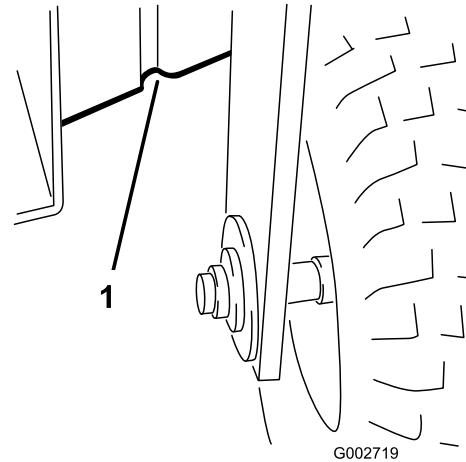

Figure 18
- Front—under the frame behind the front wheel (Figure 18).